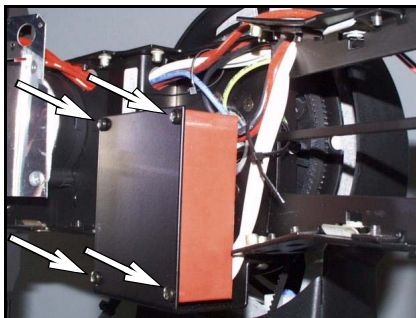

Fig. 48. Starter screws
- 9 Plug in the replacement starter and fasten it to the bracket with the lamp wires towards the front and bottom. Lead the wires up, through the hole in the top of the chassis, and towards the back as shown in Fig. 48.